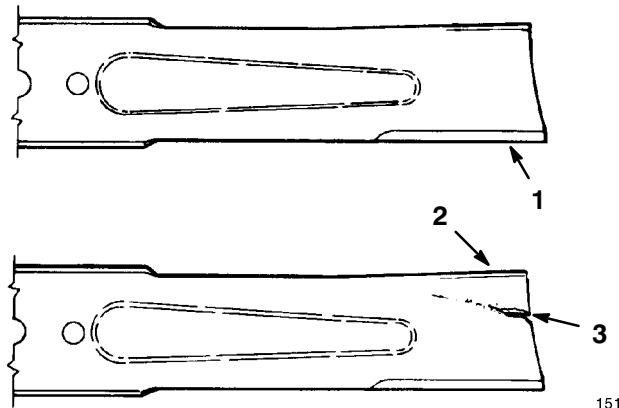

Figure 36
2. Inspect the cutting edges (Fig. 36). If the edges are not sharp or have nicks, remove the blade(s) and sharpen them; refer to Sharpening the Blade(s), page 31.
3. Inspect the blade(s), especially the curved area (Fig. 36). If you notice any damage, wear, or a slot forming in this area (Fig. 36), immediately install a new blade.